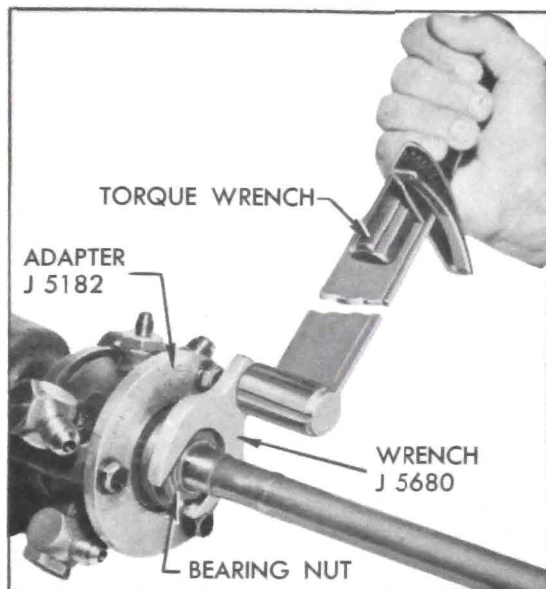

Figure 8-30—Tightening Worm Bearing Nut
union with left edge of cylinder flange on gear housing. Install Valve Cover Adapter J 5182 (fig. 8-30) with valve cover bolts and tighten securely.
11. Temporarily install steering wheel to hold steering shaft. Tighten worm bearing nut to 20-25 ft. lbs. torque, using Wrench J 5680 installed *in straight line* with torque wrench as shown in figure 8-30, then back off nut $\frac{1}{4}$ turn.